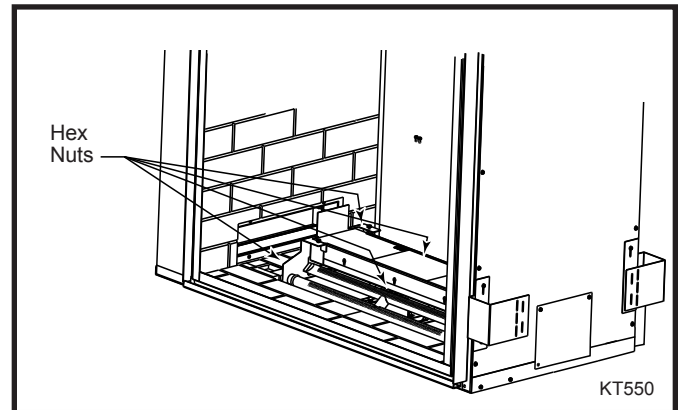

Fig. 55 Use 3/8" socket to remove hex nuts holding burner legs.
1. With a Phillips or Robertson screwdriver, remove the four (4) nuts holding the fettle to the burner assemblies. With a hex, remove the two (2) hex nuts holding each burner tube to the front of the burner assembly on both sides. Remove burner tubes.
2. Remove two (2) hex nuts holding the left burner leg. Remove burner leg. (Fig. 55)
3. Remove two (2) screws holding the pilot assembly